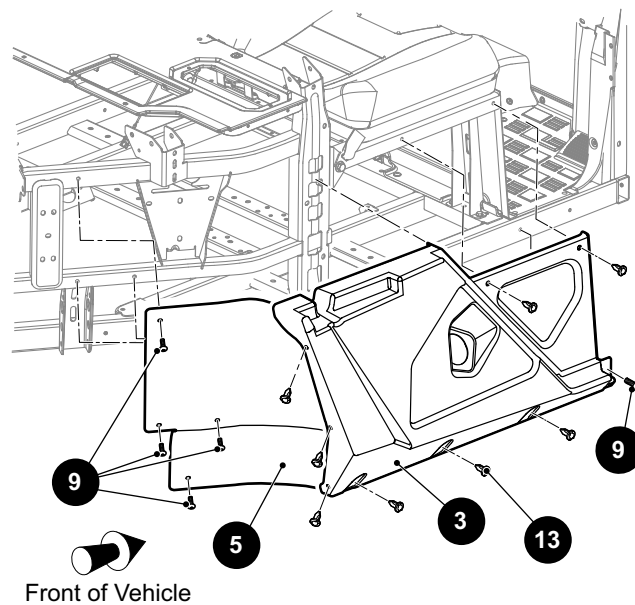

Fig. 7 Side Panel and Rear Fender Liner
2. Remove the screw (9) and plastic rivets (13) that secure the side panel (3) to the frame (See Fig. 7). Remove the side panel.
3. Remove the screws (9) that secure the rear fender liner (5) to the frame. Remove the rear fender liner.